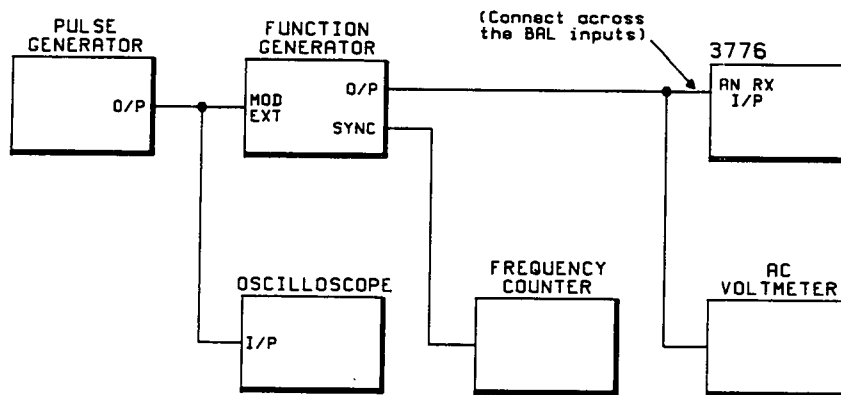

Figure 4-3 Dropouts/Interruptions Test
3. Connect the equipment as shown in Figure 4-3.